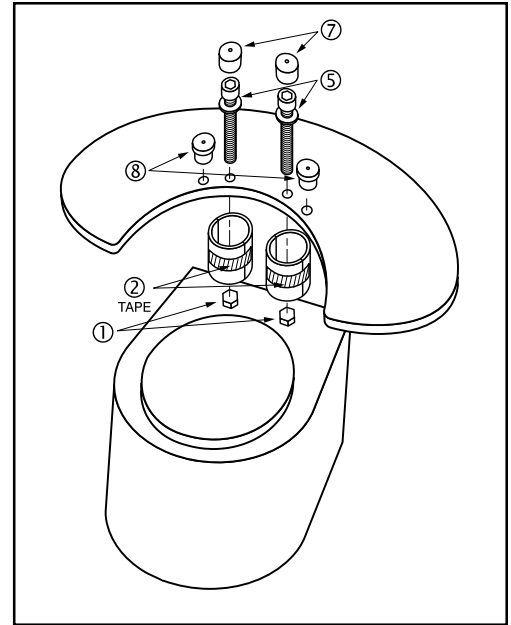

Figure 1
1. Turn ON/OFF switch to OFF (confirm green indicator light is off); unplug wheel from power source and remove the 2 hex-head bolts in front of wheel head (figure 1).